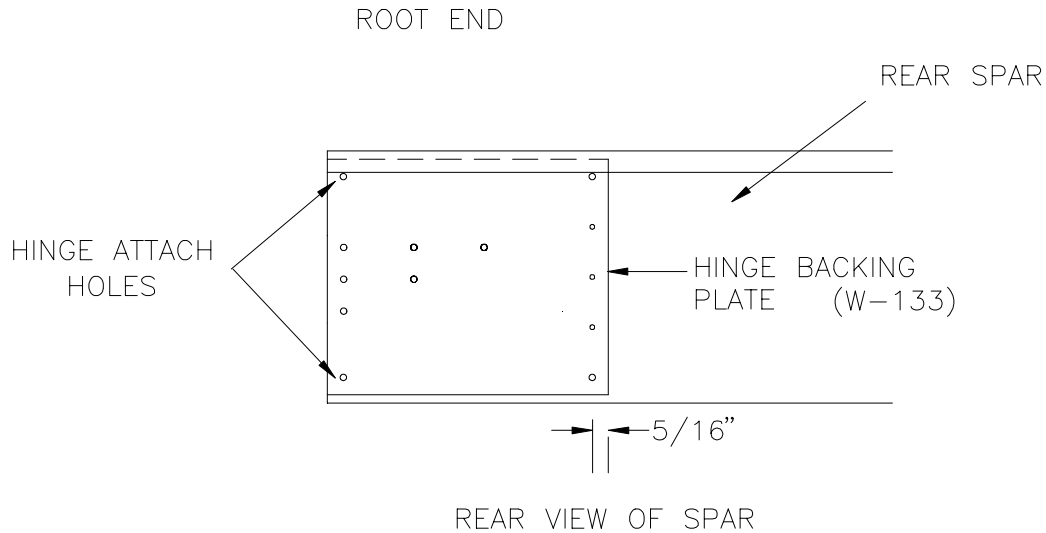

Figure 8.5.7
- 9) Remove the Hinge backing Plate and mark out and drill to #40. Cleco the Hinge Backing Plate to the Rear Spar and back drill the holes into the spar as in Figure 8.5.7.
- 1) Drill out the two Hinge Attach holes at ribs #1,#4,#7,#10 and #13 with a #11 drill. See Figure 8.5.7.